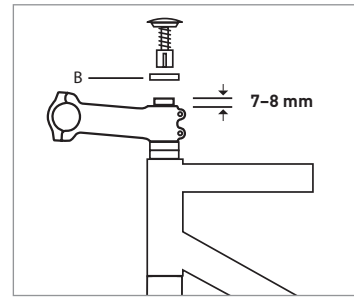

Figure 5
- A carbon steerer tube must extend 7–8 mm above the top of the stem clamp and have a 10 mm spacer installed between the stem and top cap (Fig. 5).